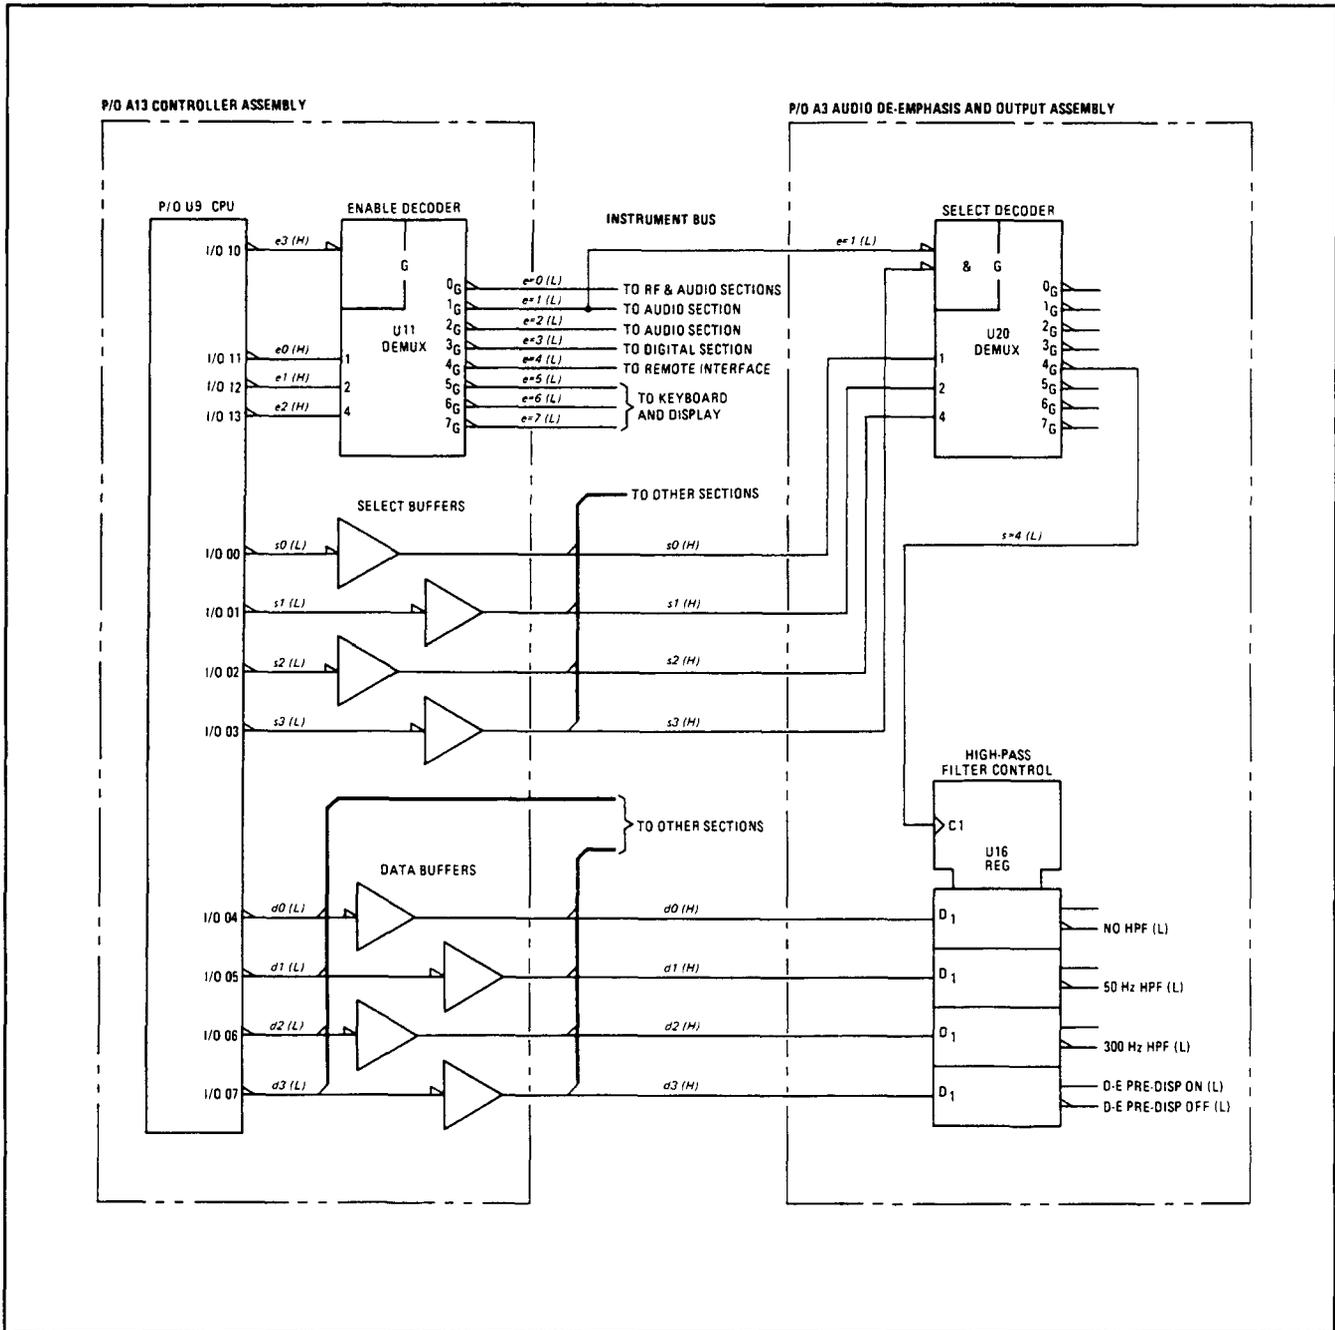

Figure 8D-7. Example Showing Instrument Bus Hookup
Figure 8D-7 shows a typical hookup on the Instrument Bus. The Instrument Bus lines are broken down into three groups: enable (e), select (s), and data (d). The enable code (e0 to e3) comes from I/O lines 10 through 13 of the CPU (A13U9).
Figure 8D-7 illustrates how the 50 Hz High-Pass Filter is selected. The filter (not shown) is activated when the output line of the High-Pass Filter Control (A3U16) labeled 50 Hz HPF(L) goes low. Register U16 is simply a latch; it does not decode the data. To activate the 50 Hz High-Pass Filter, the CPU sends out the binary enable code 0001 (hexadecimal 1), select code 0100 (hexadecimal 4), and data code 0010 (hexadecimal 2). The Enable Decoder activates the line e=1(L). The decoder was enabled because e3(H) was low. Since s3(H) is low, and since e=1(L) is also low, the Select Decoder (A3U20) is enabled. The three least-significant bits of the select code are decoded and activate the s=4(L) line out of the decoder. This line clocks the data into the High-Pass Filter Control latch. Since the d1(H) line is high, the 50 Hz HPF(L) line goes low. This selects the 50 Hz High-Pass Filter.